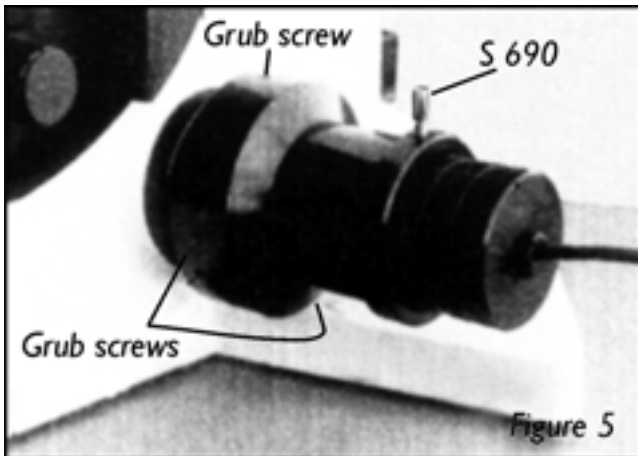

Figure 5
6. Fit H569 motor sleeve on the adapter ring. Tighten up 3 grub screws in sequence using the 2mm Hexagonal wrench key (figure 5). It may be
Slide the H249 Microstep Focus motor assembly into the motor sleeve and tighten the S690 thumb screw whilst gently pushing the focus motor assembly towards the microscope such that there is a good contact between the rubber surfaces of the drive of the motor and the drive coupling (figure 5). The fitting is now complete.